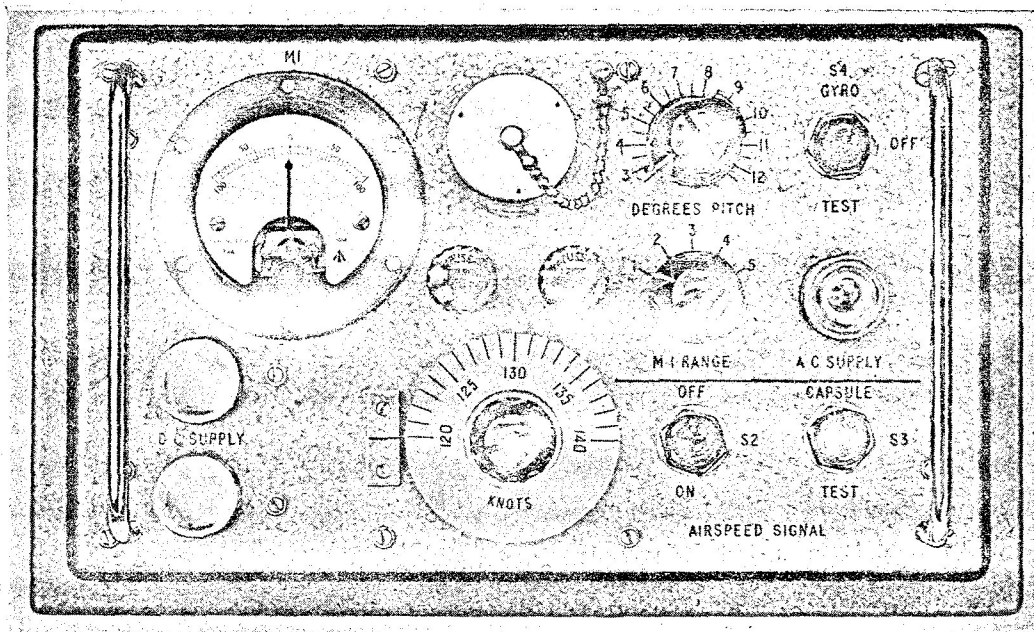

Fig. 2. 1st line test set (front view)
17. Normally, the pitch signal from the artificial horizon, Gyro Mk. 5 is applied to the actuator amplifier via pin A of PL2 (3) to coil AB of magnetic amplifier MA1 and compared electrically with the pitch datum signal derived from the speed trim switch. When the test set is connected into the system an additional pitch signal may be simulated by the test set potentiometer (RV2), this signal taken via switch 4 (TEST position) meter M1, and switch S1 (position 4 or 5) to pin F of PL1 and applied to the actuator amplifier at pin A of PL2 (3).
18. The wiper of RV2 may be adjusted by the 'DEGREES PITCH' knob (fig. 2) and it is arranged that with the setting at $7\frac{1}{2}$ degrees for the Mk. 1 and $5\frac{1}{4}$ degrees for the Mk. 2, i.e. the Sea-Vixen approach attitude, the applied signal will be identical to the attitude datum signal. Consequently, the actuator will remain stationary and the test set meter M1 will read approximately zero. Movement of